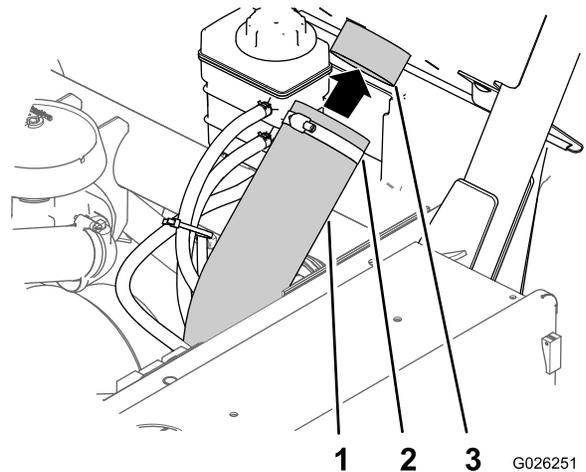

Figure 7
3. Align the CVT intake hose onto the intake-tube connector at the back side of the ROPS panel and tighten the hose clamp (Figure 7).